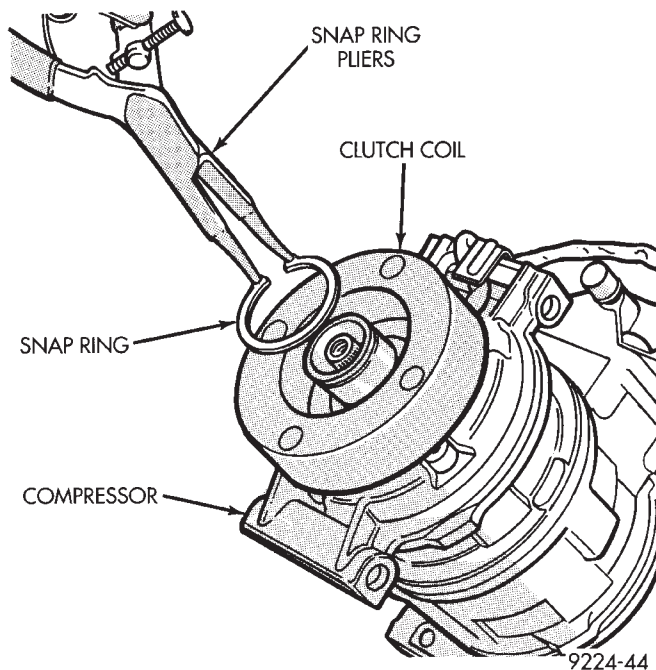

Fig. 8 Clutch Coil Snap Ring
(4) Remove coil wire clip screw and wire harness.
(5) Remove snap ring retaining field coil onto compressor housing (Fig. 8). Slide field coil off of compressor housing.
(6) Examine frictional faces of the clutch pulley and front plate for wear. The pulley and front plate should be replaced if there is excessive wear or scoring. If the friction surfaces are oily, inspect the shaft